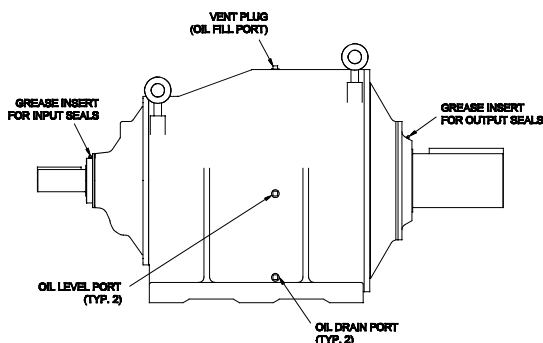

Figure 5.1—Reducer Oil Ports, Vent Plug, and Grease Insert Locations
3. Remove oil fill plug (vent plug) and one of the two oil level plugs; **reference Figure 5.1.**
2. Remove oil fill plug (vent plug) for ventilation; **reference Figure 5.1.**
1. Clean grease inserts, **reference Figure 5.1** for location.